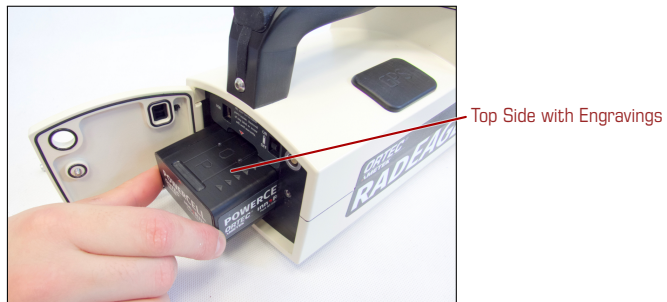

Figure 132: Inserting a POWERCELL
1. Slide the battery pack into the compartment, contact side ahead (Fig. 132, p. 110).